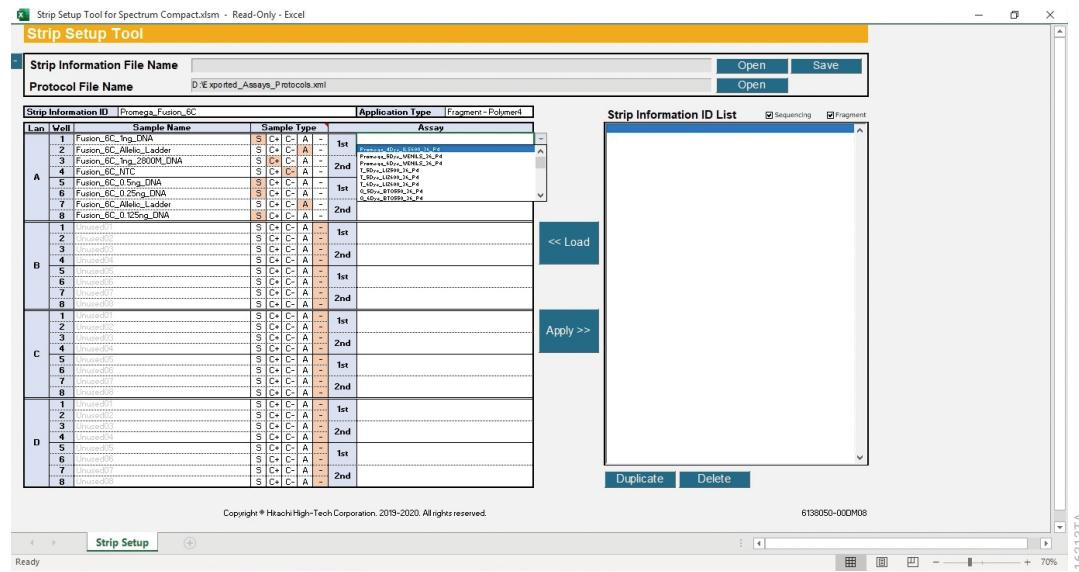

Figure 246. Strip Setup Tool for Spectrum Compact with Assay pull-down menu.
- To assign an assay to an injection set (set of four wells), select the cell under the Assay column to the right of the cell labelled 1st. This will activate a pull-down menu (Figure 246). Select the desired assay from the available list. Repeat for all injection sets.
- An asterisk appears in front of the newly created strip file name in the Strip Information ID List prior to saving the strip information as a .xml file. After saving as a .xml file, the asterisk disappears (Figure 246).